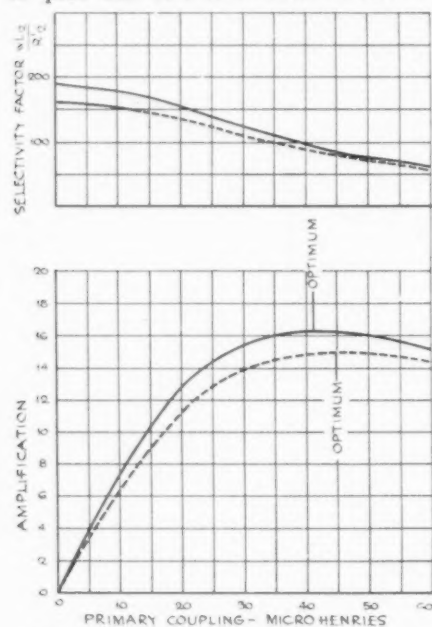

Fig. 5. Effect of Variation in Coupling on Amplification and Selectivity Factor.
lower Fig. 5. It will be noticed that the amplification rises very rapidly as the coupling is first increased and then reaches a maximum with a coupling of 41.2 microhenries. This value of optimum coupling is given by the equation
We will now see what the effect of the secondary resistance is on the selectivity and amplification of the stage. Suppose that a coupling of 21 microhenries gives the proper amplification and by reference to Fig. 5 is 13.1 and the upper curve shows that the selectivity factor is 150 at this coupling.
Suppose now that the resistance of the coil is increased 1.0 ohm, making the total resistance of the secondary 6.6 ohms rather than 5.6 ohms as before. By use of the same equations as before, we compute the amplification and selectivity curves for this secondary as shown in the dotted curves of Fig. 5. We see from these curves that if we are to obtain the same amplification (13.1) that we obtained from the original coil we will have a selectivity factor of 120 which is much lower than before. On the other hand, selectivity may be at a greater premium in the design of the receiver than is amplification, so we will choose a coupling of 12 microhenries yielding the same selectivity factor as the better coil at 21 microhenries coupling (150). We find now that the amplification has fallen off to 7.4 which is lower than the value of 13.1 shown for the other coil. Thus we have seen in a practical way a fact that is demonstrated mathematically, that no compromise is possible in the way of coupling values that will compensate for the amplification or selectivity lost by an increase in coil resistance.